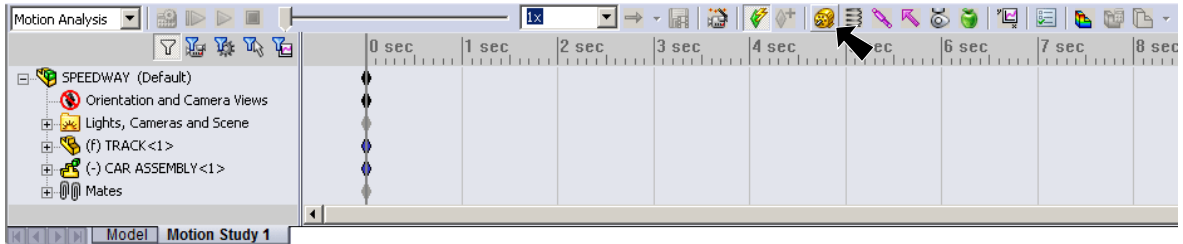

Fig. 6
Step 2. Click **Motor**  on the Motion Manager toolbar, **Fig. 6**.